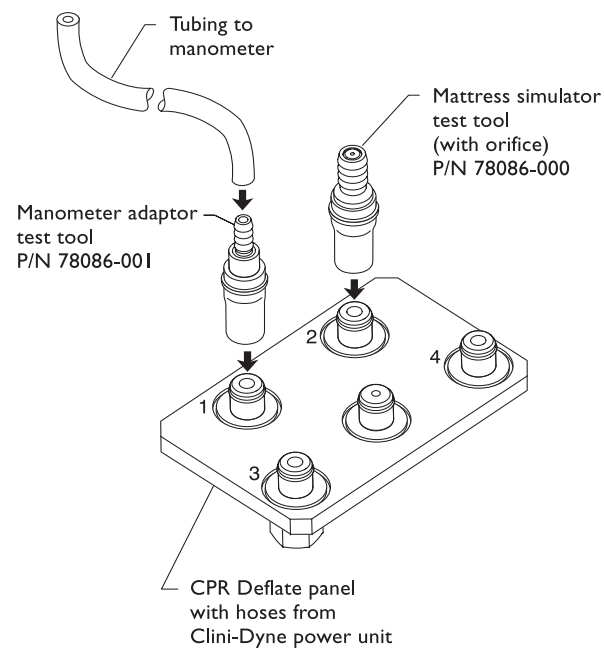

Figure 4—Mattress Simulator
1. Connect the mattress simulator to fitting 2 and the manometer adaptor to fitting 1 on the Clini-Dyne Control Unit. See figure 4.
- To check the FIRMNESS settings, connect the mattress simulator to fitting 2 and the manometer and manometer adaptor to fitting 1 (see fig. 4). Cycle the power to return settings to defaults. Allow the pressures to stabilize (up to 15 seconds), then verify that the manometer reading is within 2 mm Hg of each FIRMNESS setting on the control panel.
- Connect mattress simulator to fitting 2 and the manometer and manometer adaptor to fitting 1 as shown in figure 4. Simultaneously press the FIRMNESS and POSITION TIME buttons.